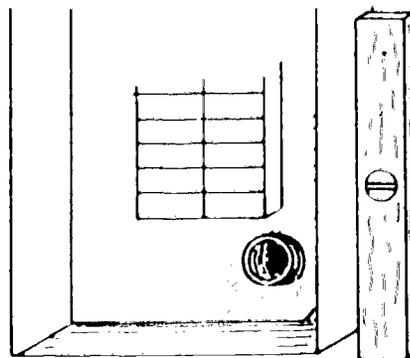

FIGURE 3.
- I. Place level on side of meter base and secure with mounting screws when leveled (Figure 3)